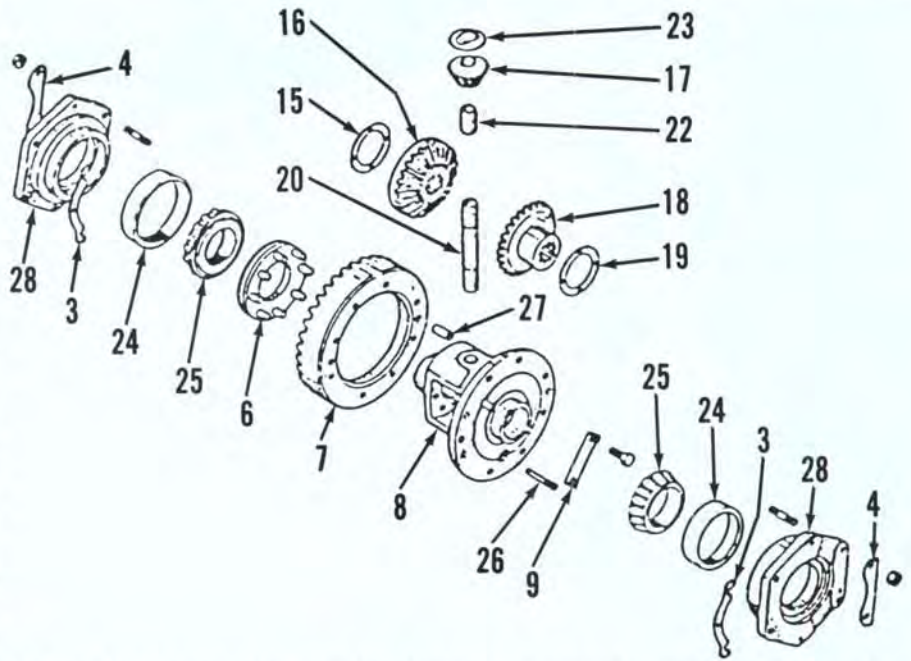

Fig. 109—Exploded view of differential and bevel ring gear used on Model L260. Refer to Fig. 108 for identification of parts except for the following.
Remove stud nuts securing bearing housings (28-Fig. 109) to transmission housing. Thread M8 cap screws in threaded holes at top and bottom of bearing housings to serve as forcing screws and remove housings by turning forcing screws alternately a little at a time. Remove shims (3) when they are free and keep in proper order for reassembly. Shims control backlash of bevel gears. Lift differential unit out top opening when bearing housings are removed.
124. **BACKLASH ADJUSTMENT.** Main drive bevel gear backlash should be 0.2-0.25 mm (0.008-0.010 inch) and is controlled by thickness of shim pack (3-Fig. 109) located under LEFT carrier bearing retainer. Shims must be obtained from total shim pack established in adjusting carrier bearing preload. Shims (3) are available in thicknesses of 0.1, 0.2 and 0.5 mm (0.004, 0.008 and 0.020 inch).
126. An exploded view of differential and main drive bevel ring gear is shown in Fig. 107, 108, or 109. To disassemble, first unbolt and lift off main drive bevel gear (7). On Model L260, it is necessary to remove locking screw pin (26—Fig. 109) before cross shaft (20) can be removed. On other models, shaft can be bumped out toward keyed side when ring gear is removed. Differential spider gears (17) and axle side gears (16 and 18)